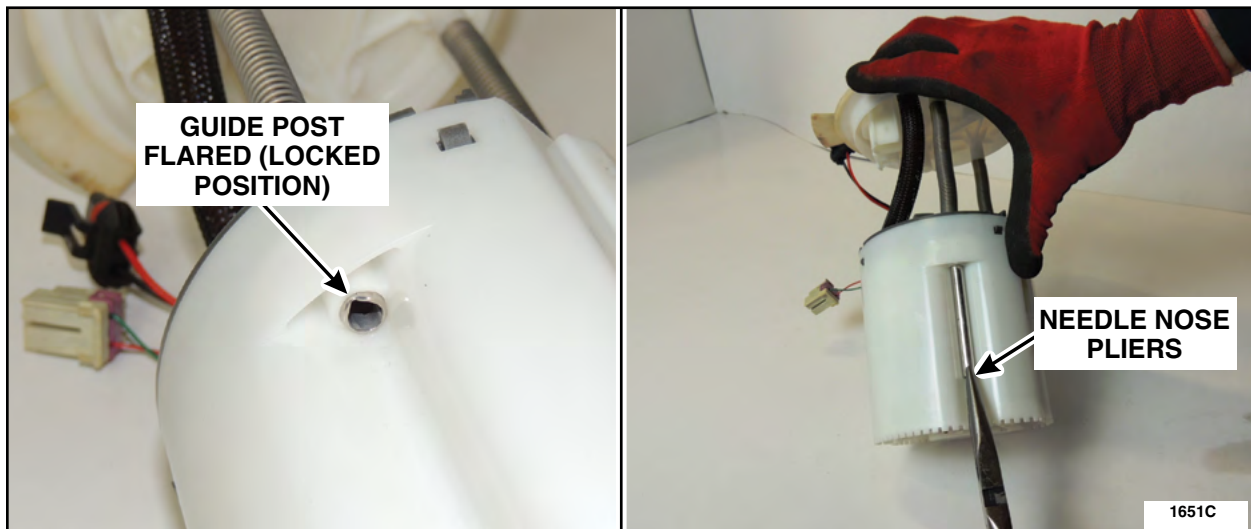

FIGURE 5
- Using a pair of needle nose pliers, round the lower flared portion of the guide post. When the guide post on each side of the FDM has been sufficiently rounded, the upper flange can be removed. See Figure 5.
NOTICE: When flaring the end of each guide post, only apply enough pressure to prevent the guide post from pulling through the lower module. Using excessive pressure when flaring may cause bending of the guide post, which can limit the necessary travel of the flange. The flared guide post should look similar to Figure 5, and no more than 1/2 in (12.7 mm) of the guide post should be exposed on the bottom side of the FDM after flaring.